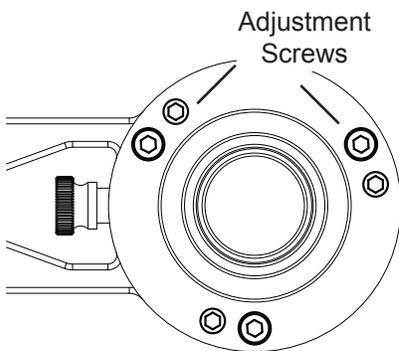

Fig. 3.4b
5. If the object is off the center, adjust the 6 adjustment screws (Fig. 3.4b) on the polar scope kit with a 2.5mm Allen key to eliminate the offset by half. When making the adjustment, loosen one screw for 1/4 turn each time, and then tighten the other two screws.